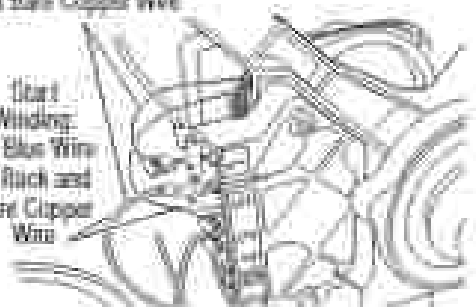

Figure 3 • Main and start winding measure points
9. Remove the bare copper wire terminal from pin 5 of black drive motor switch. See Figure 3.